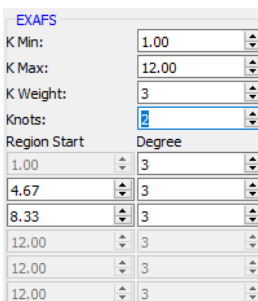
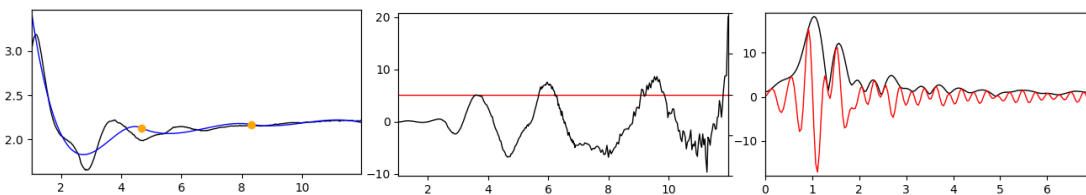

Figure 2-11: Here are the spline parameters we are starting with.
Figure 2-12: The EXAFS resulting from the subtraction of this spline are shown here.
- 13) From the lectures, you'll remember that the spline is a series of low order polynomials used to remove low frequency oscillations resulting from an atom scattering off its own electrons. With this in mind, there are a few things we want to accomplish with a spline: 1) we want to effectively remove low frequency oscillations from the EXAFS, which we can assess by looking for intensity below $R = 1$ in the FT, and 2) we don't want the spline to remove actual EXAFS wiggles, either by having too many segments or by using too high order polynomials. As a starting point, set the "Knots" value to 2, meaning that three polynomials are used (Figure 2-11). These settings will use three third order polynomials that are spliced (knotted, hence two knots) together to remove the spline from the EXAFS. The result should look like Figure 2-12.